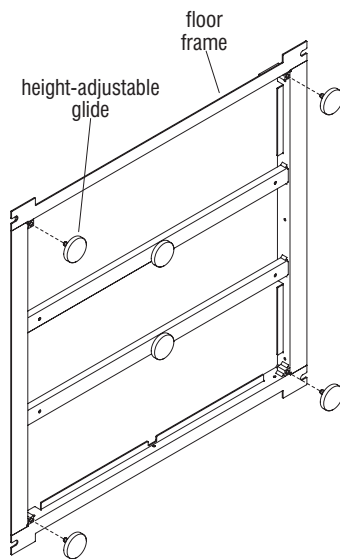

Figure 1
1. Carefully rotate floor frame onto its side and balance, or lean it against a sturdy surface (Figure 1).
2. Remove the height-adjustable glides located at each corner of the floor frame by twisting them out of the frame counterclockwise (Figure 1).